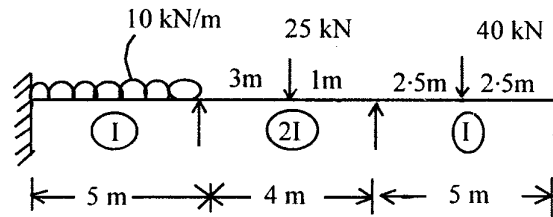

Fig. 1
1. Analyse the continuous beam shown in Fig.1 by moment distribution method. Sketch bending moment and shear force diagrams. 20